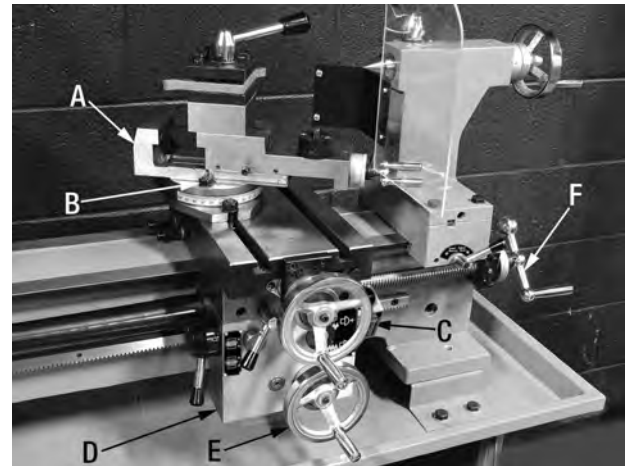

FIGURE 14
1. The compound slide (A) Fig.14 can be adjusted to produce cuts at an angle such as tapered cuts. Loosen hex. bolts (B) at the swivel base of the slide, swivel slide to desired compound angle.
1. The cross slide (A) Fig.14 moves across the Metal Lathe bed. Turning the cross slide handwheel (C) clockwise moves the slide away from the operator. The motion of this slide is used for facing a workpiece and when advancing a cut for reducing a diameter.
1. The longitudinal motion of the carriage (D) Fig.14 is controlled by the lower handwheel (E) or the handle (F) at the end of the lathe bed. The handwheel will be used most often, but when the handle is used, remember that the half nut must be engaged and the handle must be pushed in before it will move the carriage. The motion of this slide is used when cutting along the length of a workpiece. This slide can also be operated with the power feed feature.